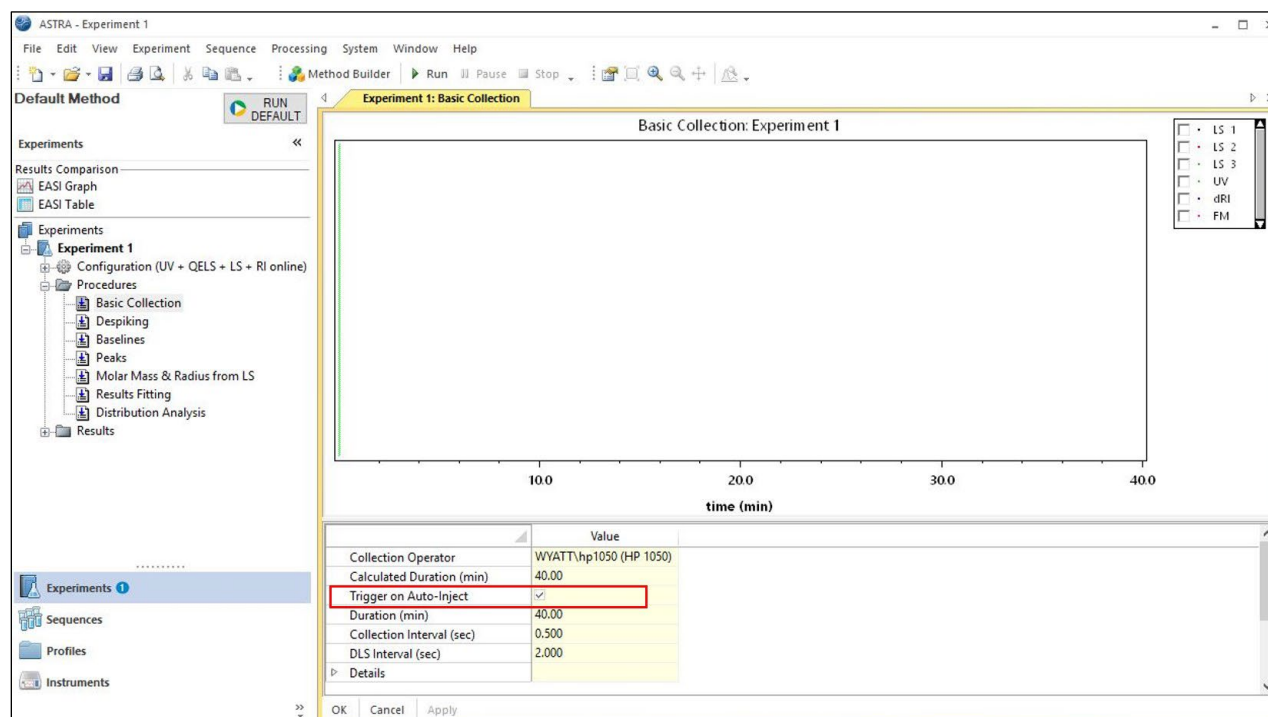

Figure 11: A screenshot of the ASTRA software screen with the **Procedures** node expanded and **Basic Collection** selected.
- Expand the **Procedures** node in the ASTRA software workspace and double click on **Basic Collection** (see Figure 11).